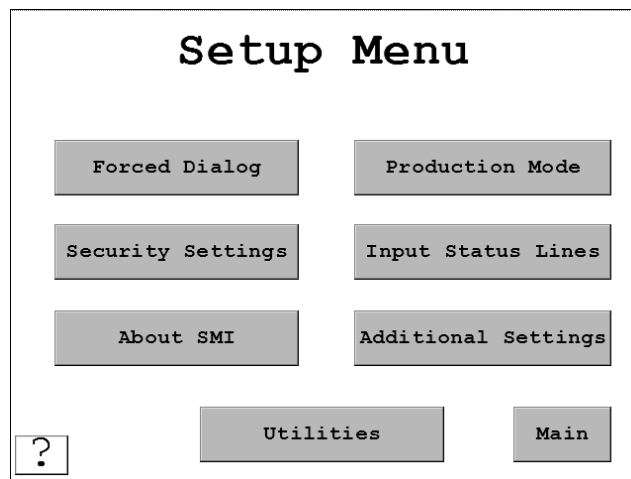

Figure 3-2 Setup Menu
1. In the Main Menu, press **Setup**. The Setup menu appears, Figure 3-2.